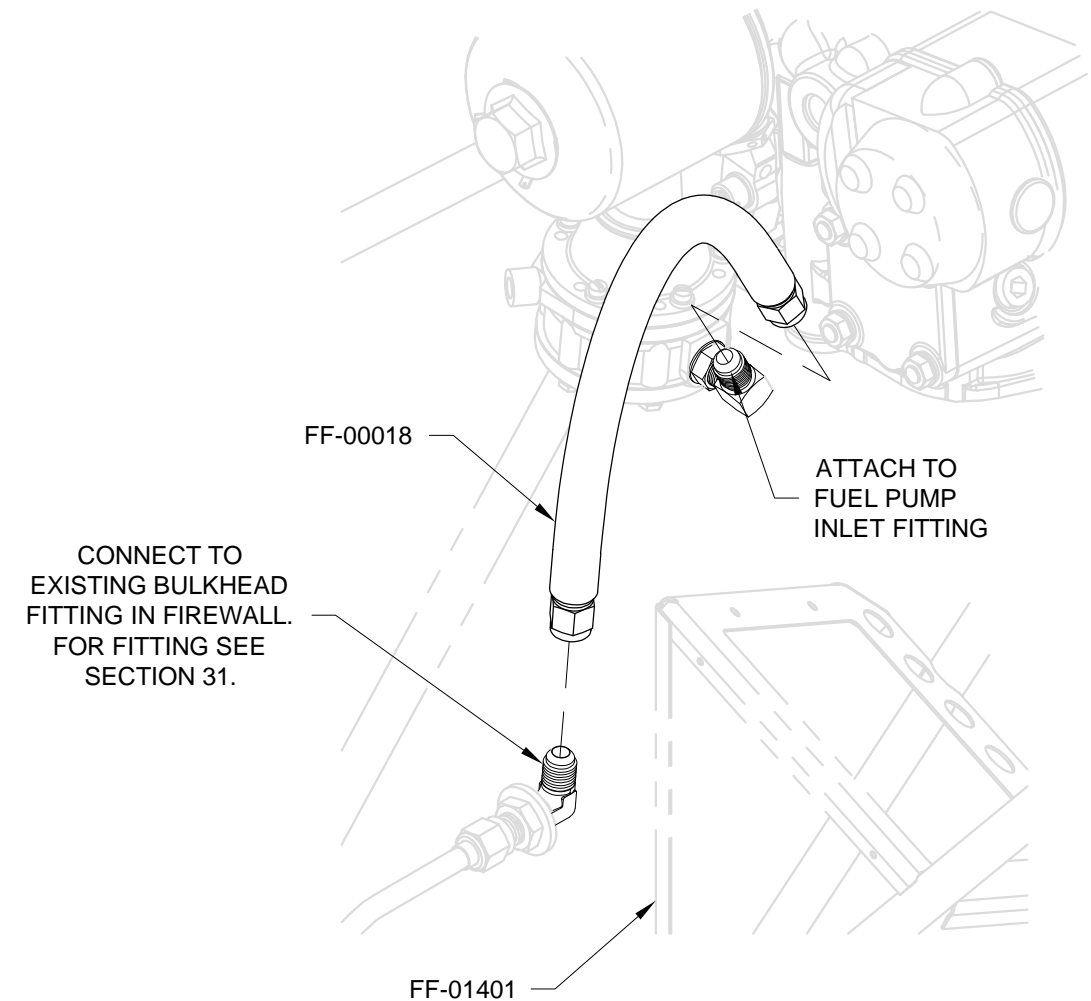

FIGURE 3: FIREWALL TO PUMP
Step 1: (Tail Dragger) Install the FF-00018 Hose between the elbow fitting in the firewall and the fuel pump as shown in Figure 3.